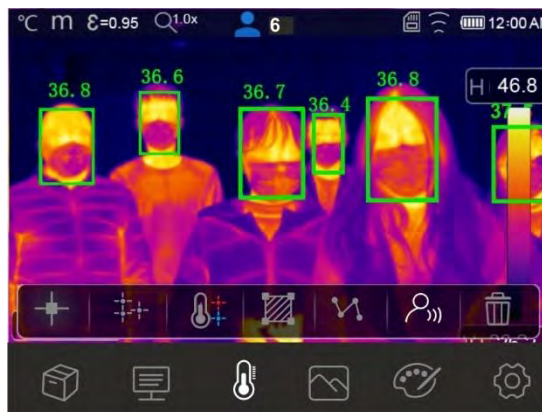

Fig. 36: Face mode on more people
- The Face mode allows for the face temperature of several people (**up to 10 people**) to be evaluated at the same time (see Fig. 36). The counter “” found at the top of the display indicates the number valid peoples detected